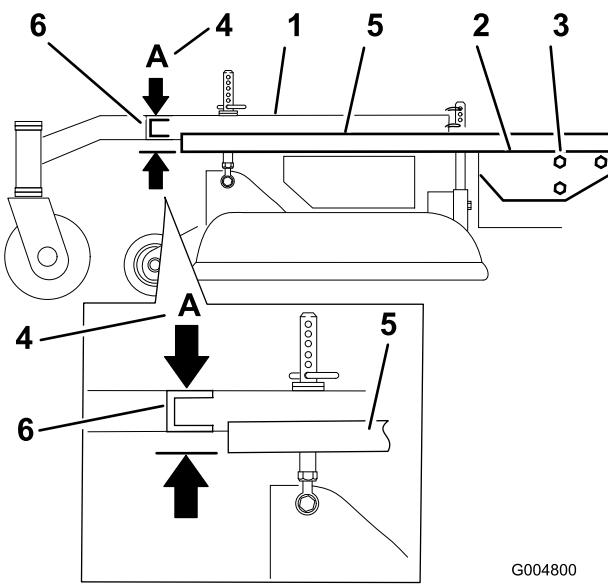

Figure 62
3. Place a long straight edge on top of the engine deck as shown in Figure 62.
4. At the carrier frame cross channel, measure the height at location **A** (Figure 62). This measurement must be 1-5/16 inch (33 mm), plus or minus a 1/4 inch (6 mm).
6. Loosen the carrier frame mounting bolts on both sides of the machine (Figure 62).
7. Align the carrier frame and engine deck to match 1-5/16 inch (33 mm), plus or minus a 1/4 inch (6 mm) at location **A** (Figure 62).